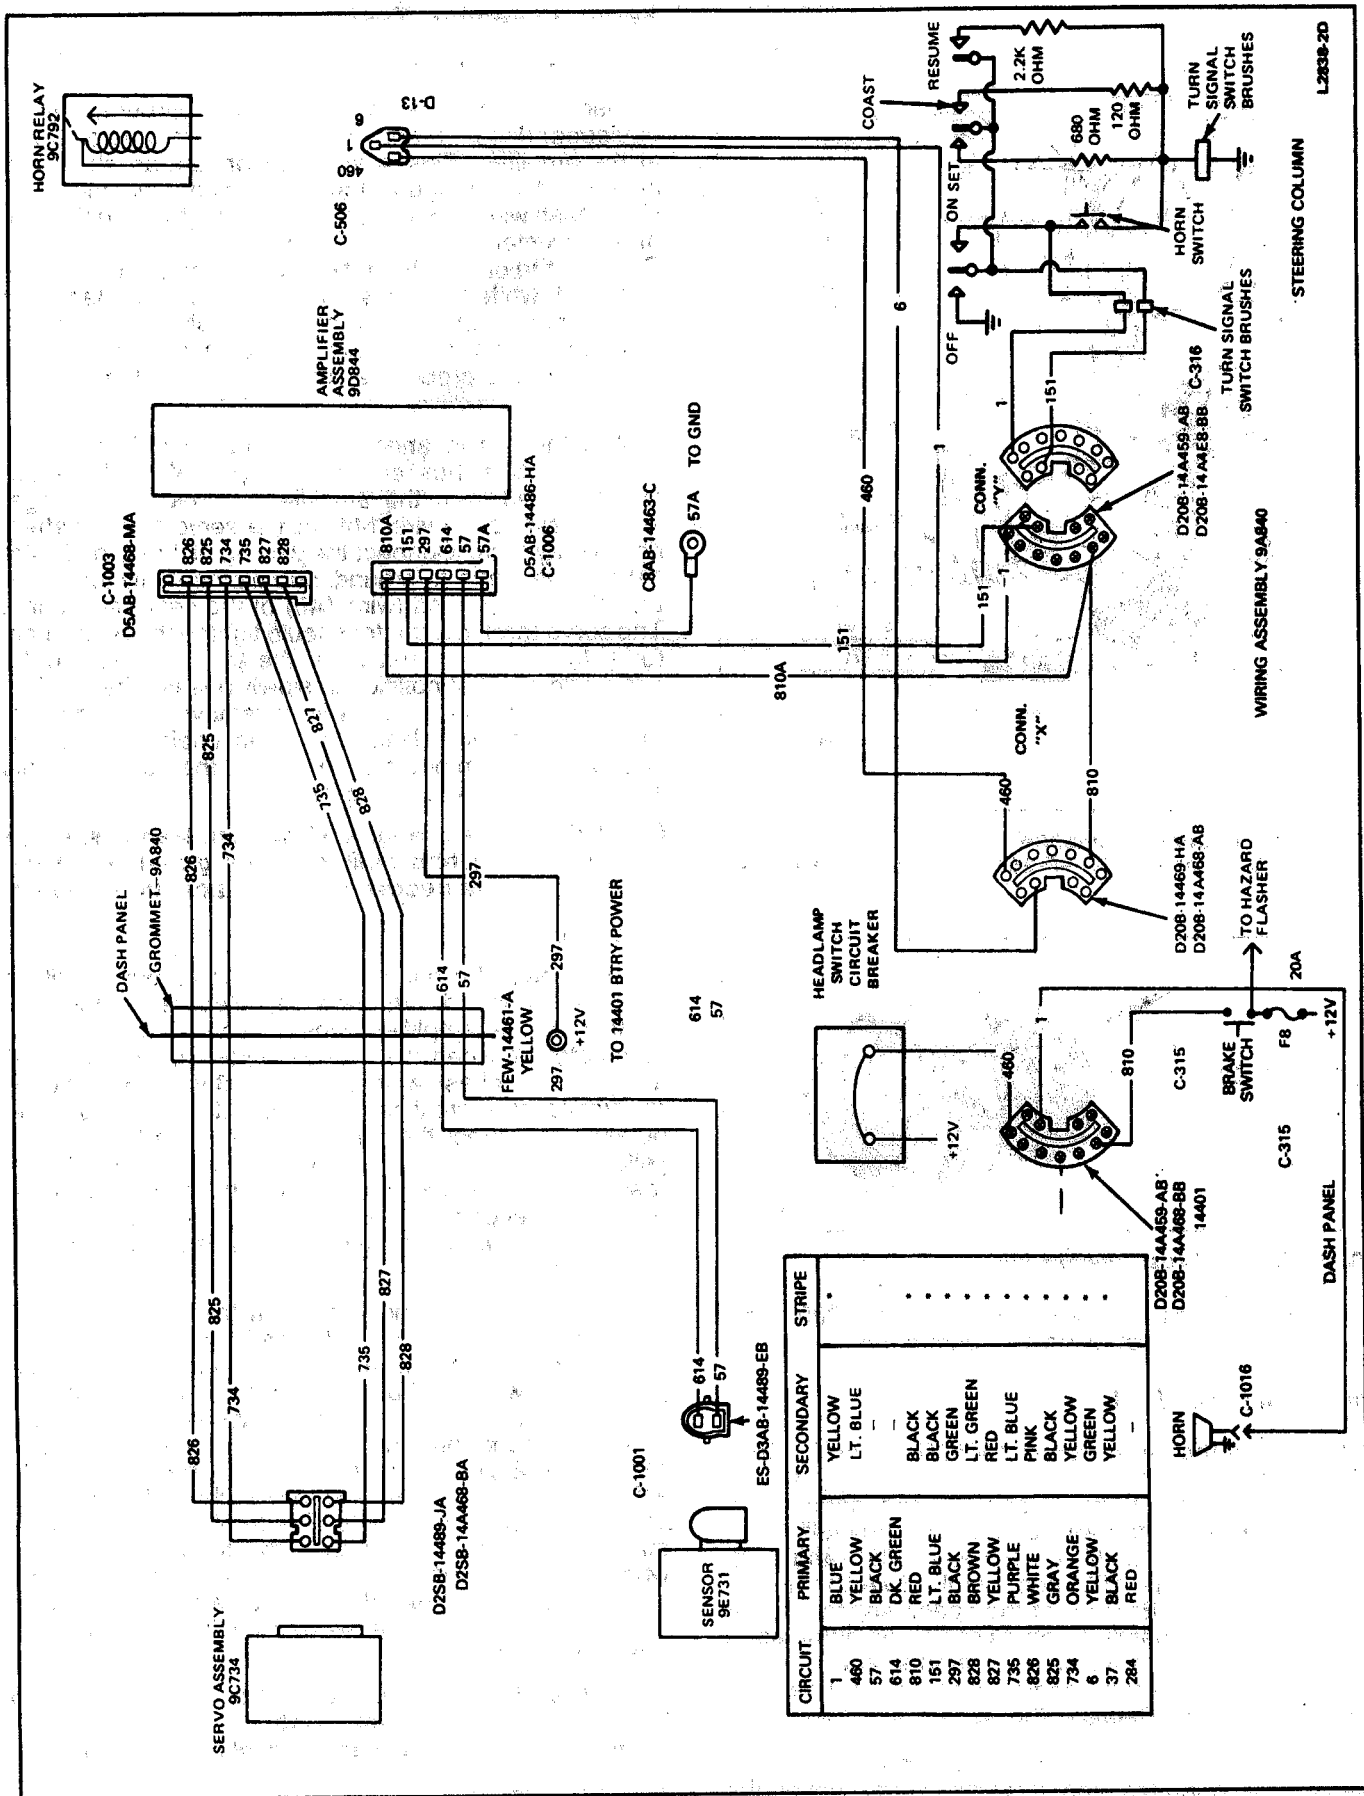

FIG. 7 Wiring Diagram—E-150—E-350
- If stop lamps work properly, check the battery voltage on the black-green stripe hash lead 297 at the amplifier connector C-1006 (E-150—E-350) white—purple stripe lead (296 at connector) or C-717 (F-150—F-350 and Bronco) (Figs. 7 and 8). Depress the brake pedal until the stop-lamps are lit.